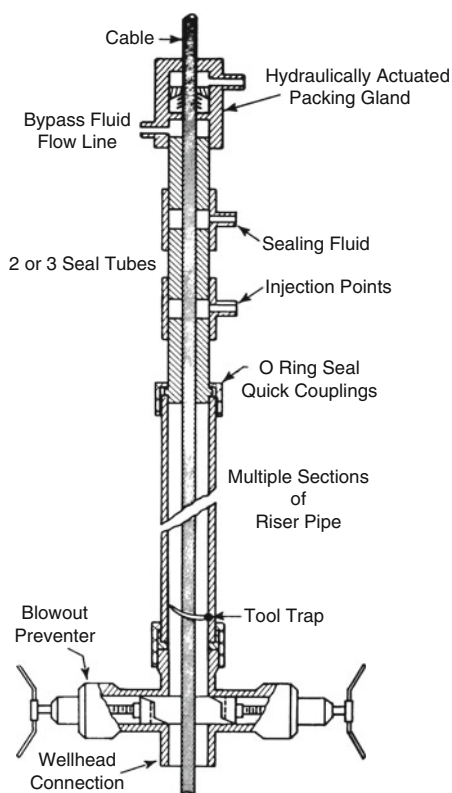

Fig. 2.1 Production logging wellhead pressure-control assembly. Courtesy Schlumberger
In general, when working against wellhead pressure the logging cable will be a single-conductor armored cable about 1/4 in. in diameter. To seal the wellhead assembly against well fluids, a stuffing box or hydraulic packing gland will be used. For high pressures, a “grease-seal” assembly will be used. In order to get logging tools into and out of the well in a safe and efficient manner, a section of riser will be needed. A typical setup is illustrated in Fig. 2.1. Note that, above the wireline blow-out preventer, this pressure-control assembly has (1) a tool trap, (2) multiple sections of riser, and (3) the pressure sealing equipment. When retrieving a tool from the well, it is sometimes difficult to gauge exactly where the cable head is in the riser. If it is pulled up against the pressure sealing assembly too briskly, the tool may shear off the end of the cable and drop back into the well. To prevent this undesirable event, the tool trap catches the tool at the base of the riser.